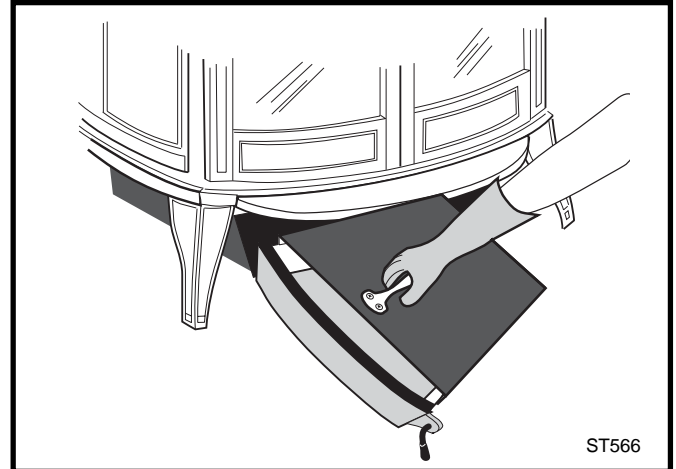

Fig. 31 Be sure the cover is securely attached before removing the ash pan.
- Slide the cover onto the pan, making sure it is securely closed. (Fig. 31)
- Return the ash pan to its original position in the stove, and close and latch the ash door. Fig. 31.